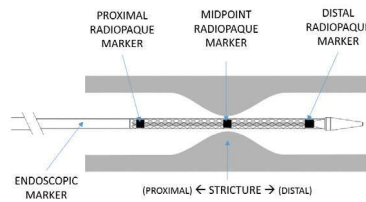

Figure 3
- d) When the center X-ray marker reaches the center of target stricture, continue pulling back the handle until the stent is fully deployed. (See figure 3, 4)